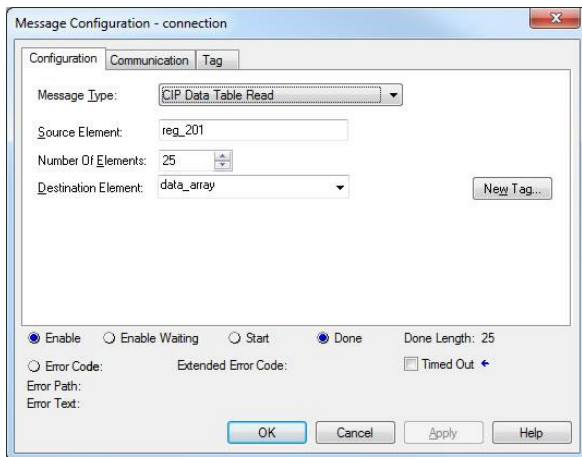

Figure 43: MSG Instruction Configuration
- b) Click the message configuration button (“...”) in the MSG instruction. The “Message Configuration” window will open. Refer to Figure 43.